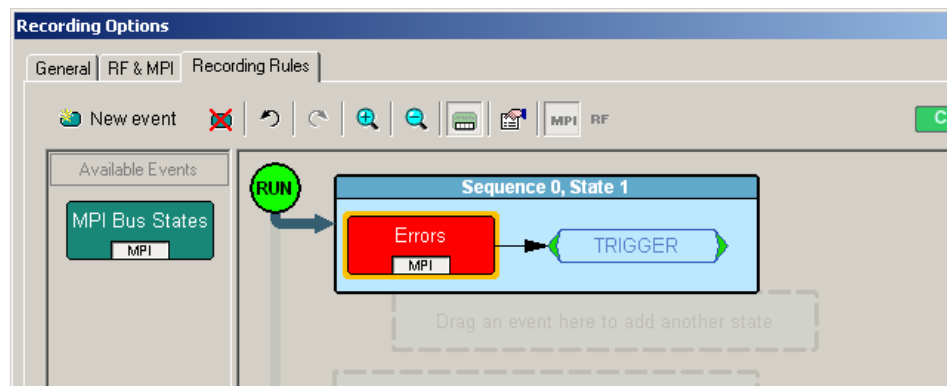

Figure 7.14 Action Assigned to Event
Step 2 Select Specify Action, and then choose an action from the submenu. The menu closes, and the action is assigned (Figure 7.14).